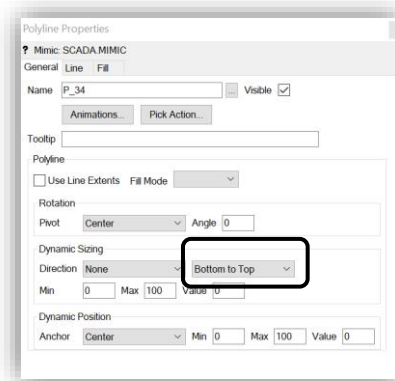

Figure 48. Select Bottom to Top so water fills from Bottom to Top.
- Double click on water>General tab>Dynamic Sizing>Direction drop down menu>Select Bottom to Top as shown in the following Figure 48.